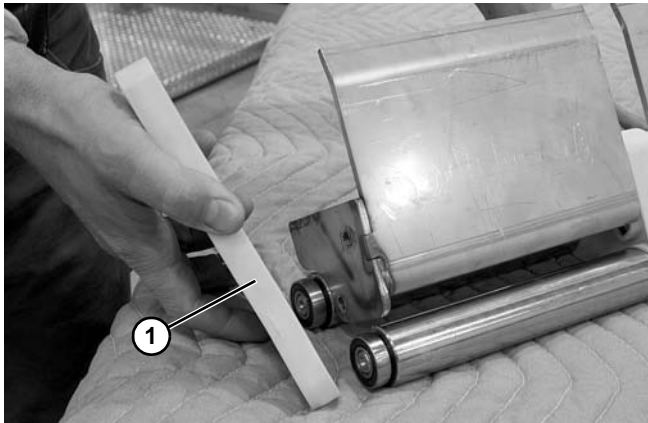

Figure 86
- Slide off end plate (**Figure 86, item 1**).